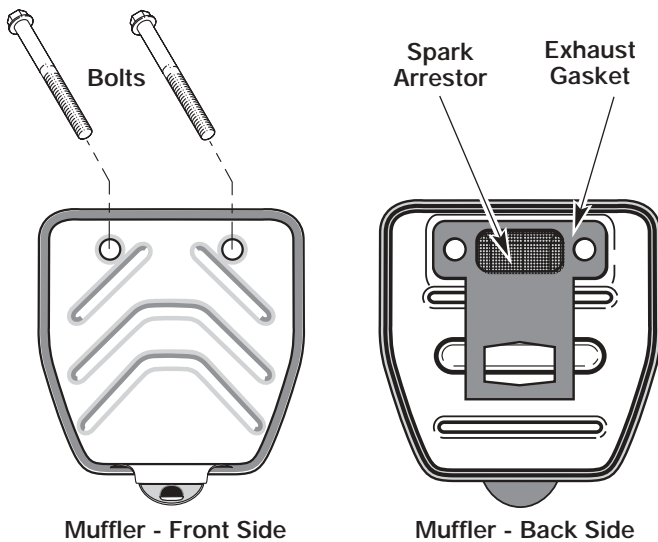

Fig. 26
2. Locate muffler front and the two (2) bolts securing it to the engine (Fig. 26). Remove the two (2) bolts using a flatblade screwdriver or 5/16-inch socket or nut driver. Pull muffler off of the engine.
3. Turn muffler over to the back side and locate the exhaust gasket. Remove the muffler gasket from the muffler (Fig. 26).
7. Place the exhaust gasket against muffler's back side. Align the gasket bolt holes with the bolt holes in the muffler. While holding exhaust gasket in place, insert the bolts into the muffler's front side (Fig. 26).